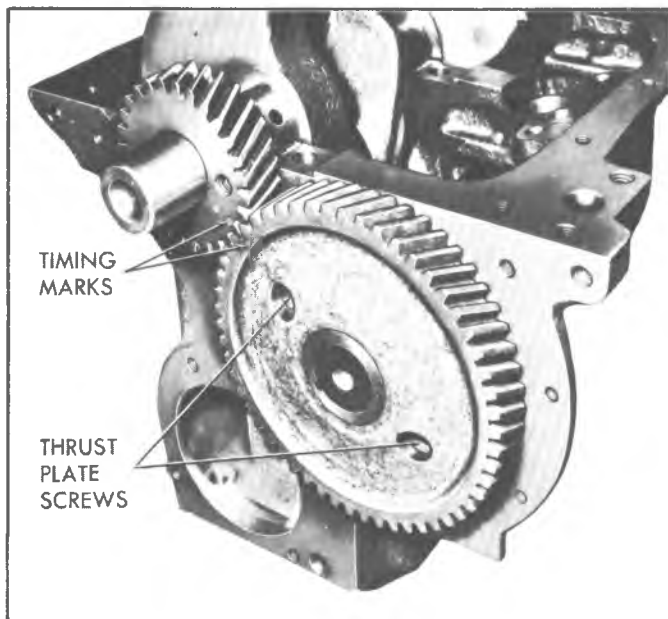

Fig. 7—Timing Gear Alignment Marks
- a. Lubricate camshaft journals with engine oil, then rotating crankshaft and camshaft so that marks on gears will line up, install camshaft and gear assembly being careful not to damage bearings (fig. 7).